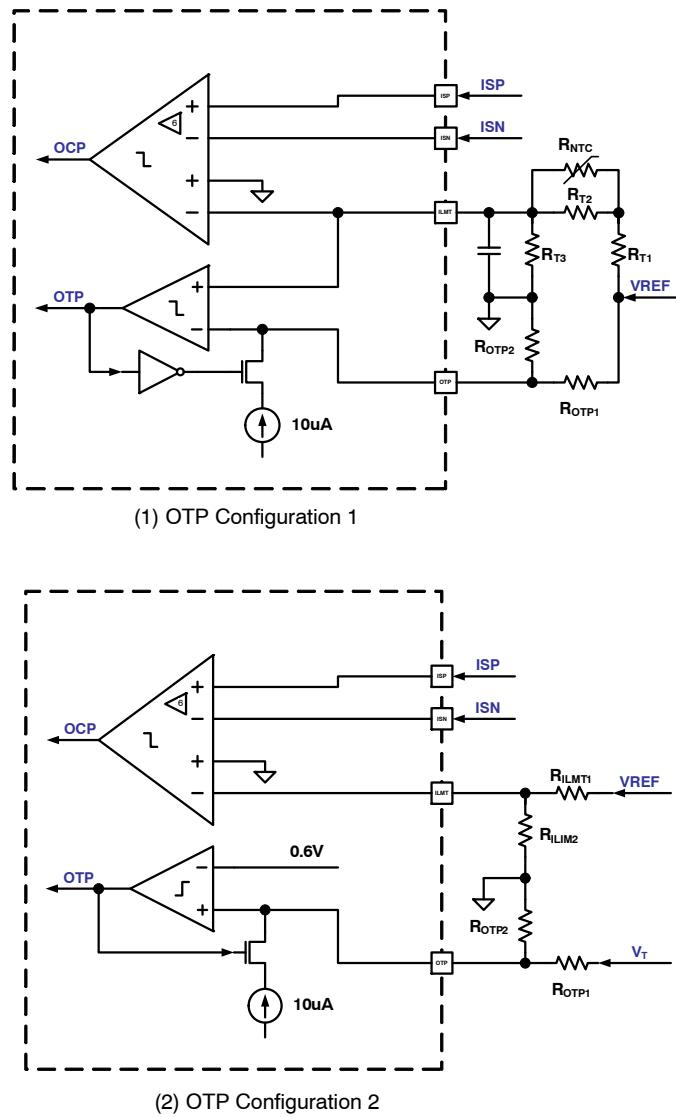

Figure 16. Over-Current Protection and Over-Temperature Protection
The over-current threshold can be externally programmed at the ILIM pin for each channel. As shown in Figure 16 (1), a NTC resistor RNTC can be employed for temperature compensated over current protection. The peak current limit per phase can be calculated by
If no temperature compensation is needed, as shown in Figure 16 (2), the peak current limit per phase can be simply set by
With OTP Configuration 1, as shown in Figure 16 (1), the NTC resistor RNTC senses the hot-spot temperature and changes the voltage at ILMT pin. Both over-temperature threshold and hysteresis are externally programmed at OTP pin by a resistor divider. Once the voltage at ILMT pin is higher than the voltage at OTP pin, OTP trips and the channel is shut down. The channel will have a normal start up after a hiccup interval in condition that the temperature drops below the OTP reset threshold. The OTP assertion threshold VOTP and reset threshold VOTP_RST can be calculated by
With OTP Configuration 2, as shown in Figure 16 (2), the NCP81232 receives an external signal VT linearly representing temperature and compares to an internal 0.6 V reference voltage. If the voltage is over the threshold OTP